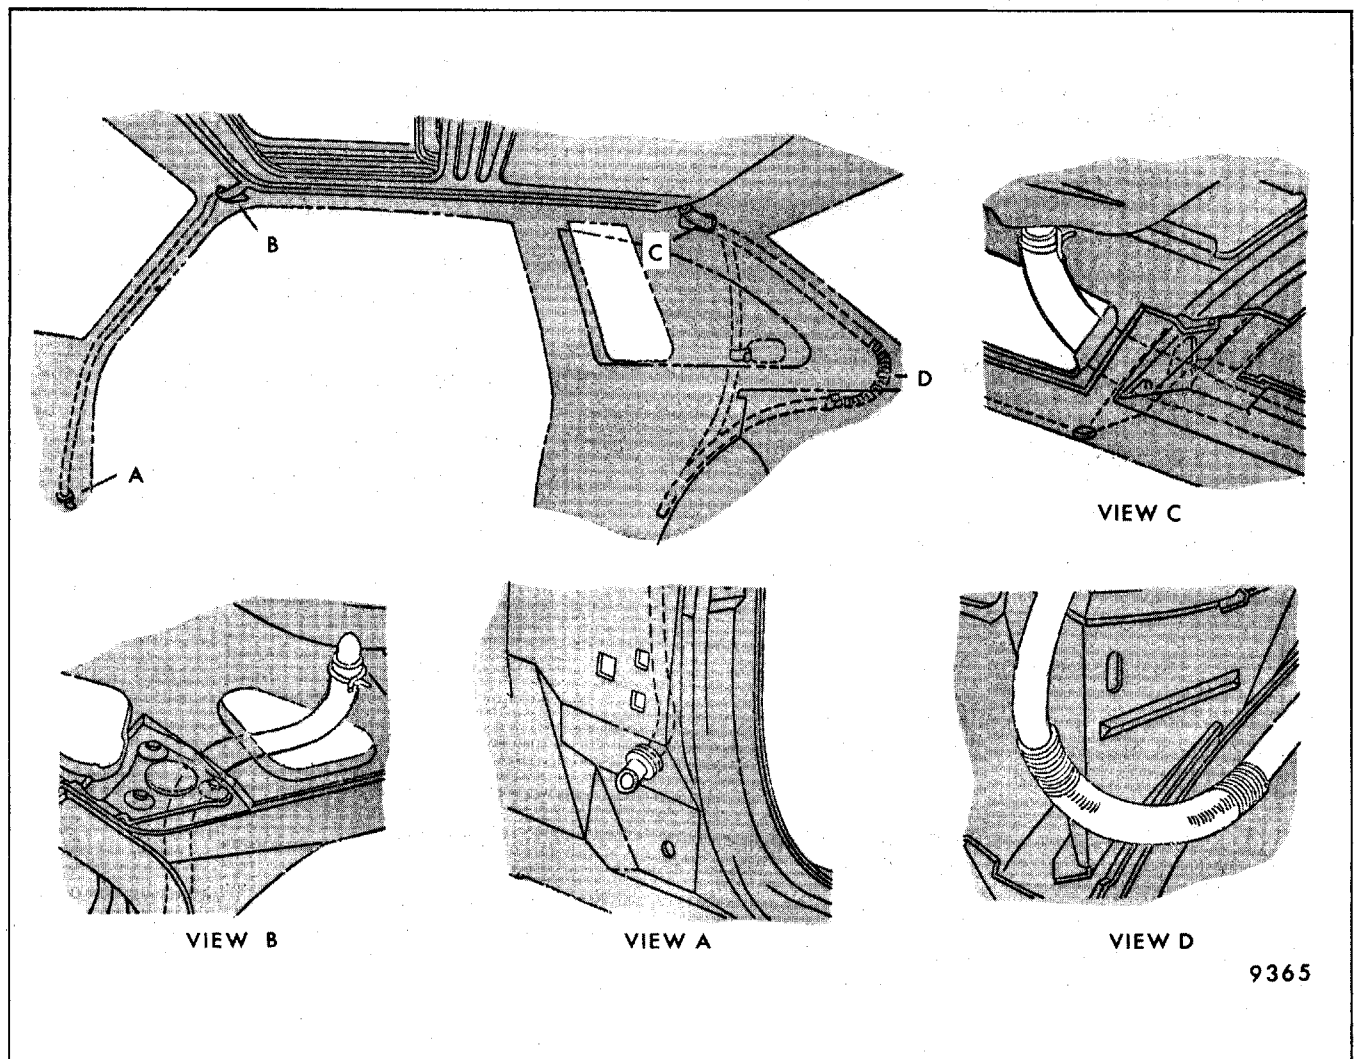

Fig. 8-66-Sun Roof Drain Hose Routing
1. Remove windshield and roof side trim moldings in the affected area and detach headlining sufficiently to gain access to top of either drain hose (Fig. 8-66).
1. Remove quarter and back window trim moldings, quarter upper trim panel and detach headlining sufficiently to gain access to top of either drain hose (Fig. 8-66).
4. Detach hose from clip at quarter inner panel on "57" styles or wheelhouse pinchweld flange on "37" styles (Fig. 8-66). Without disturbing upper end of hose, pull lower (free end) of hose rearward over wheelhouse on "37" styles or through access hole in quarter inner panel on "57" styles.
8. Route hose as specified and insert in clip at original location (Fig. 8-66).
4. Disconnect four drain hoses at the sun roof housing drain tubes (Fig. 8-66).